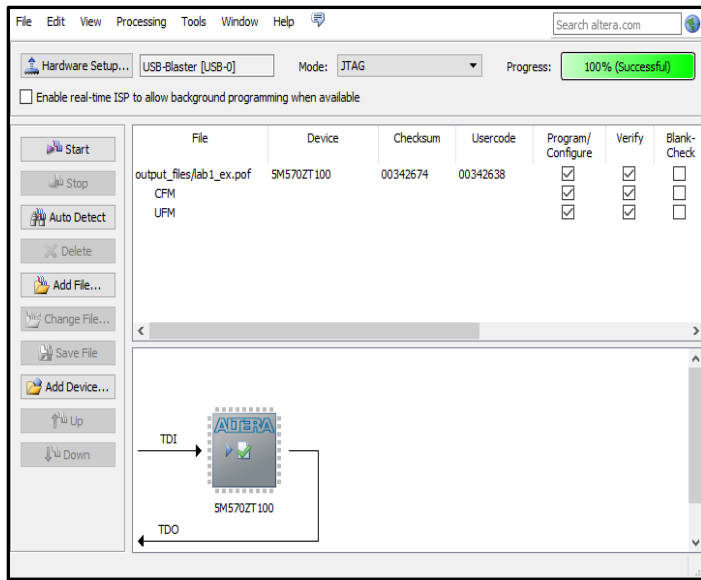

Figure 17: Programmer
- Select “Hardware Setup” and then select (double-click on) USB-Blaster. (See Figure 17.) If it does not show up make sure your USB-Baster is plugged into your computer and your driver is installed. Then press “Close”. If you are on a mac using a virtual machine, make sure your USB-baster is connected to your virtual machine. Look in your virtual machine settings for something relating to USB Connection Preferences.